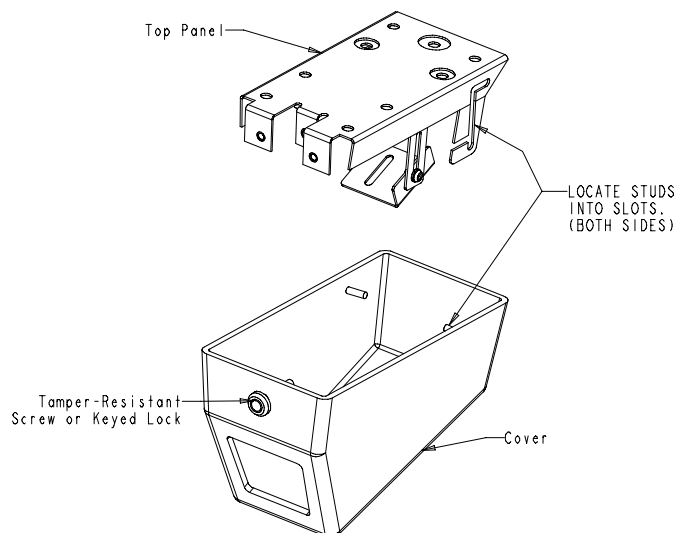

Figure 1: Removing the cover
2. Models LTC 9405/00 and 9405/03 require the use of the special tool to unscrew the tamper-resistant screw on the front of the cover. See figure 1.
Models LTC 9405/01 and 9405/05 require the use of the key to unscrew the lock on the front of the cover. See figure 1.